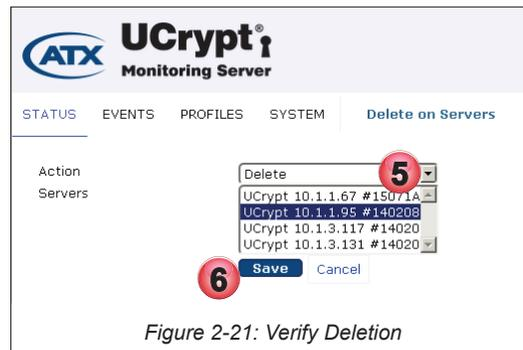

Figure 2-21: Verify Deletion
5. The Device to be deleted is highlighted but more can be highlighted from this dialog, Figure 2-21